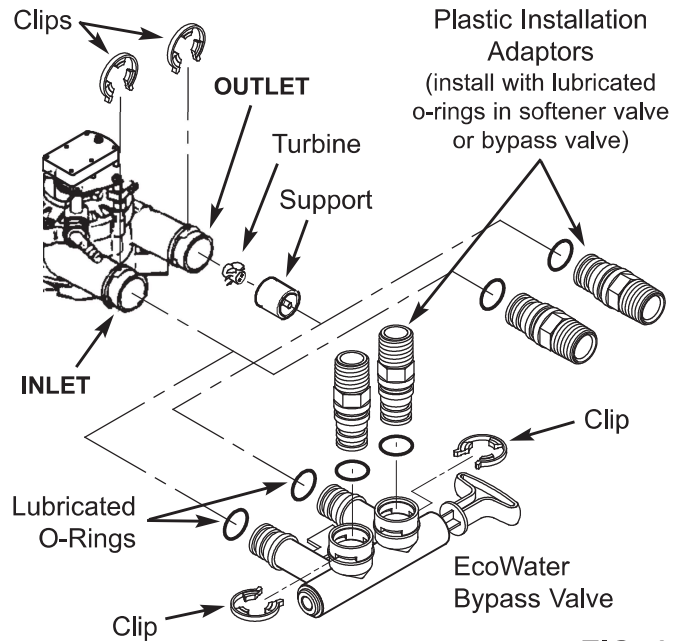

FIG. 6
- a. If installing a single bypass valve, push the bypass valve, with lubricated o-ring seals in place, into the valve inlet and outlet ports (See Figure 6).
- b. If installing a 3-valve bypass system, slide plastic installation adaptors, with lubricated o-ring seals in place, into the valve inlet and outlet ports, respectively (See Figure 6).